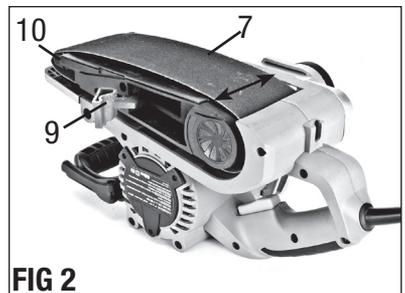

FIG 2
INSTALLING OR REMOVING BELT (FIG 2)
2. Place the sander with sanding belt up as shown in FIG 2.
3. Pull the belt tension release lever (9) outward completely. This action retracts the front pulley (10).
3. Pull the belt tension release lever (9) outward completely. This action retracts the front pulley (10) and releases tension on the sanding belt (7).